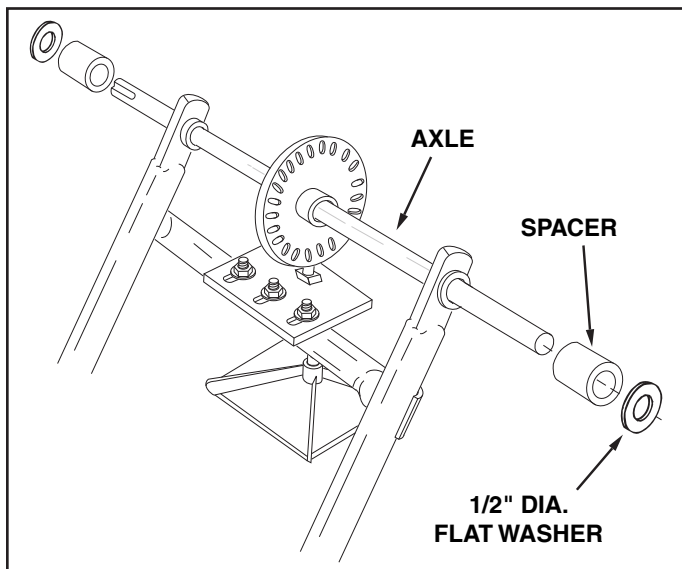

FIGURE 4
7. Assemble a spacer and then a 1/2" flat washer onto each end of the axle. See figure 4.